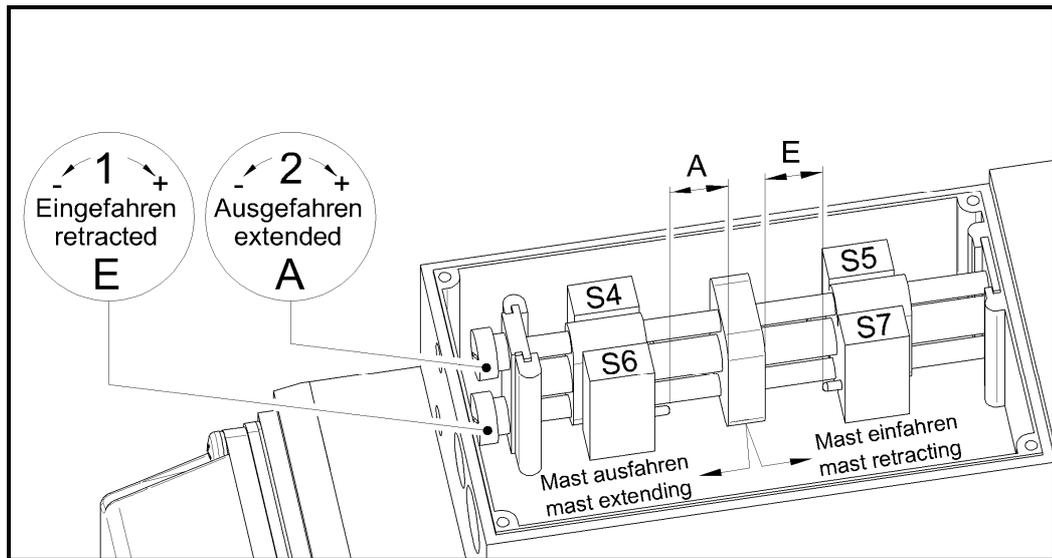

figure 4
Remove case cover from motor drive (see fig. 4/pos. 2) and adjust final switch "S6" through the adjusting hole using a screwdriver: